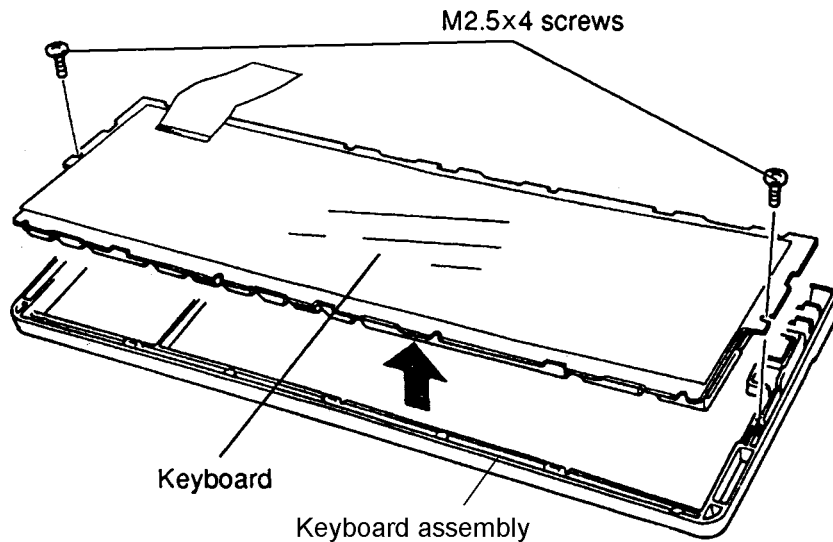

Figure 4-11 Removing the Keyboard from the Keyboard Assembly
9. Remove the **two M2.5x4 screws** securing the keyboard to the **assembly** and remove the keyboard (Figure 4-11).
1. Place the **keyboard** in the **keyboard assembly** as illustrated in Figure 4-11, and secure it with **two M2.5x4 screws**.